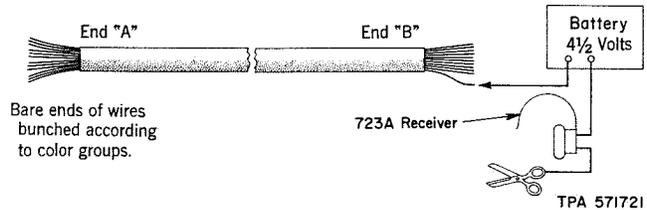

Fig. 4—Test For Opens
- (1) Remove the sheath for a distance of about 12 inches at one end (A) of the section of the cable to be tested. (When making a test for defective pairs remove no more of the sheath than is necessary for making the test.)
- (2) Strip the insulation off all the conductors for a distance of about 3 inches from the end.
- (3) Bunch the conductors of each color group separately by binding the bare ends tightly together with a piece of wire or cotton sleeving. By bunching the pairs according to their colors, any pairs which are split or transposed between color groups will be detected in making the test for opens. (Split pairs and transpositions occur only at splices and, therefore, such troubles are not involved in tests of single sections.) Wrap the end of the cable loosely with muslin and protect the end as necessary.
(4) **Test for Opens:** Strip off about 12 inches of the cable sheath at end (B) and test each color group for opens as follows: Connect the receiver to one side of the battery and to a pair of shears as shown (Fig. 4). Connect one of the conductors of the color group under test to the other side of the battery.